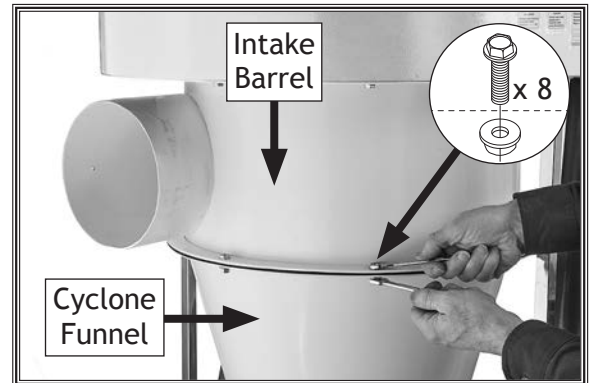

Figure 15. Attaching cyclone funnel to intake barrel.
10. Attach cyclone funnel to intake barrel, as shown in **Figure 15**, using (8) $\frac{5}{16}$ "-18 x $\frac{3}{4}$ " flange bolts and (8) $\frac{5}{16}$ "-18 hex nuts.